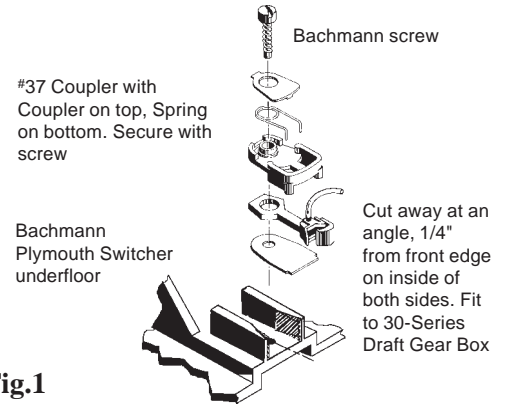

Fig.1
2. Trim front inside of the side walls of the coupler pocket at an angle, as shown in Fig.1. Trial fit 30-Series Draft Gear Box to be sure enough is trimmed.
3. Assemble the #37 Coupler with Coupler on top and Torsion Spring on bottom, as shown in Fig.1. Align and secure with screw.